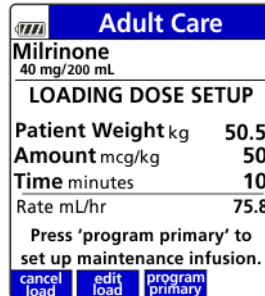

Figure 65. Loading Dose Setup Screen Complete.
- When Loading Dose Setup is complete, press the **program primary** soft key to begin programming of the primary infusion. See Figure 65.